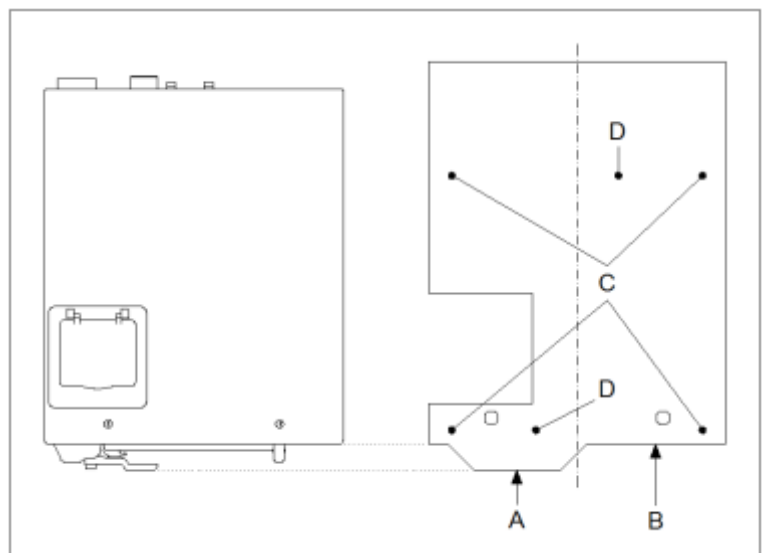

Fig. 2.3
Should the extra cardboard packing used as a spacer between the washing machine and the packaging have the holes (C) or (C and D) indicated in Fig. 2.3, this can be used as a template for the layout of the washing machine's anchoring points on the floor.
- Place the extra sheet of cardboard on the floor as shown in Fig. 2.3. It is important to place the cut-out for the dispenser as it is located on the washing machine.
- The washing machine can be aligned using the plans (A) or (B) in Fig. 2.3 as appropriate. Plan (A) distributes the anchorage points with reference to the hinges, or in the case of the **RMS/RMG628** and **REM/RMG070** models, to the handle. Whereas Plan (B) does so with reference to the front of the washing machine.
- Mark the anchoring points on the floor using holes (C) as indicated in Fig. 2.3. In the case of the **RMS/RMG628** and **REM/RMG070** models, mark the points using the holes (C) and (D) as indicated in Fig. 2.3.